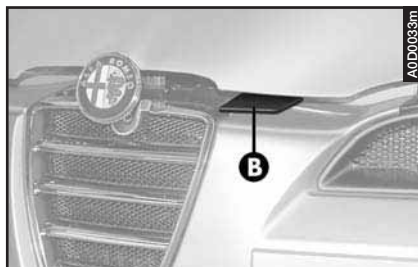

fig. 8
- Raise the safety lever upwards (**B**-fig. 8).